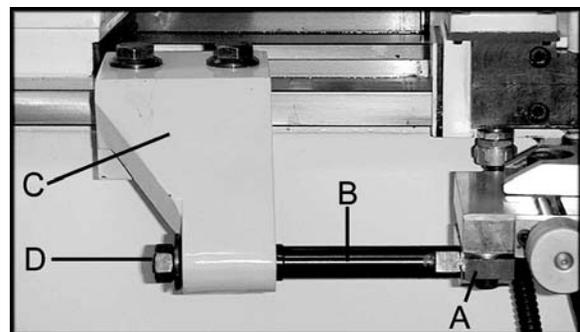

Figure 8
14. Install the bracket (A, Figure 8), for the clamp rod, under the longitudinal slide with two hex socket cap screws.
15. Thread the adjusting bar (B, Figure 8) into the bracket.
16. Fasten the clamp (C, Figure 8) to the lathe bed beyond the length of the clamp rod. Do not tighten at this time.
18. Install the washer and nut (D, Figure 8). Tighten all bolts.